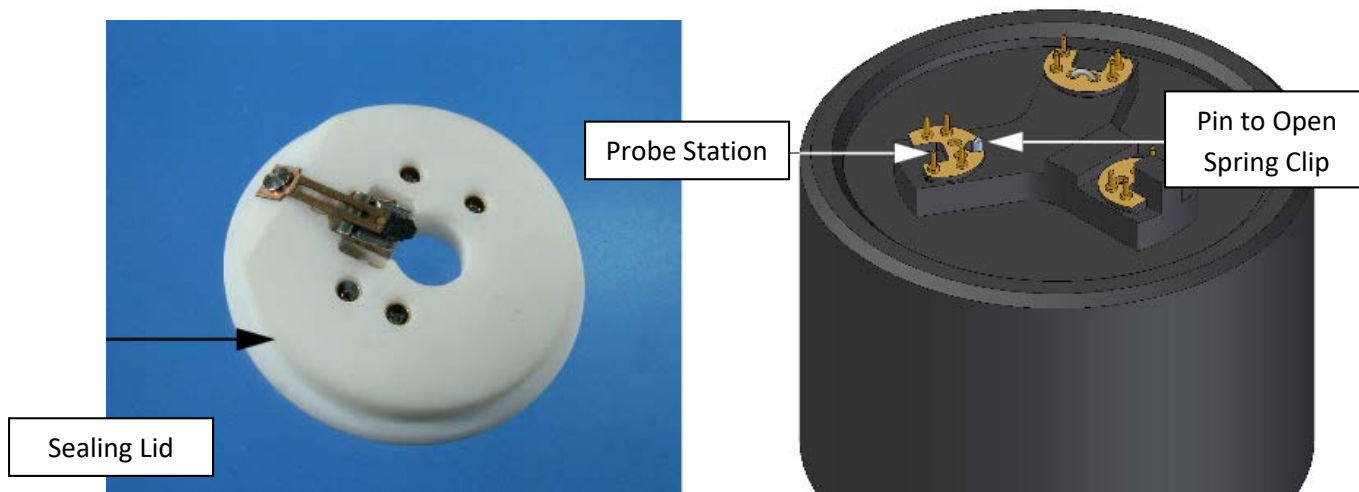

**Figure 6.** The purge gas/Peltier cooling fluid manifold showing the flow meter, adjustment valve, and associated tubing for the dry nitrogen purge gas.
- Open up the line and regulate the flow of purge gas by turning the knob on the flow meter counter-clockwise (Figure 6). Allow the small bead to rise approximately to the line marked 10 mL/min (for heating). This will be sufficient to generate laminar flow without affecting the temperature or creating turbulence. An ~10x higher flow rate is necessary to prevent condensation on the probe when cooling the sample.